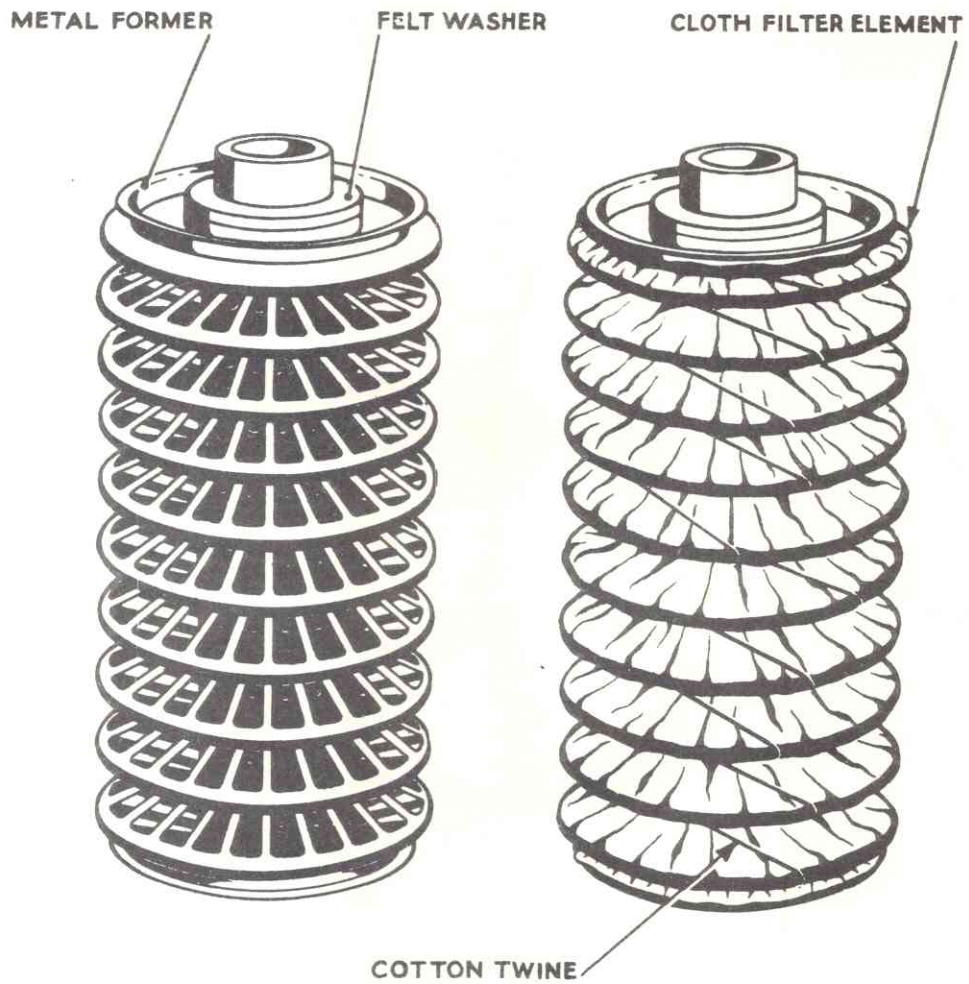

Fig. 12. Element Assembly
2. Lift the element out of the housing and cut the twine securing the cloth, see Fig. 12.